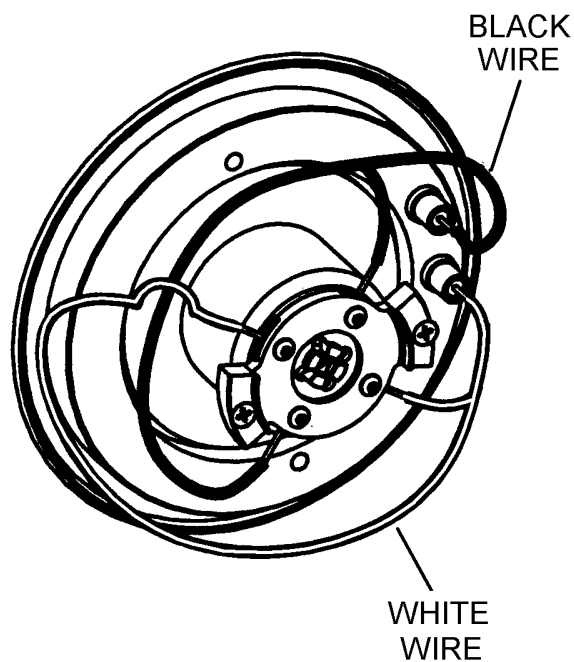

Figure 5-19. Q00 quadrupole wiring
4. Carefully reconnect the four leads to the lead pins on the Q00 quadrupole assembly as shown in Figure 5-19.